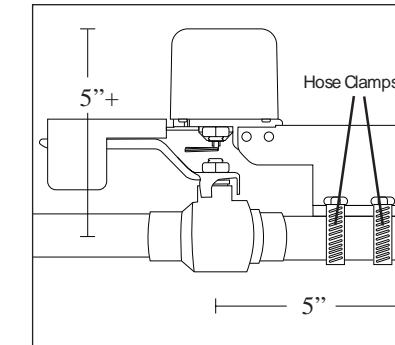

Figure 3
The Water Main Shut-Off can be installed on any preexisting ½” to 1” brass ball valve, at least 5” away from any walls or other obstructions. Examine Figure 3 and make sure there is enough room in your plumbing installation to accommodate the Shut-Off.
5. Loosely tighten the hose clamps around the pipe on the opposite side of the valve handle so it remains movable (fig 3.)